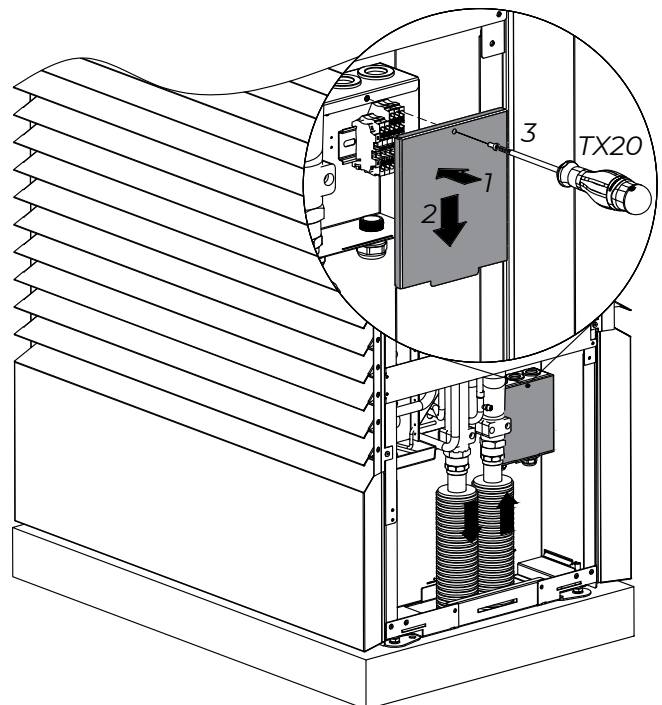

Figure 15: Opening the electrical box
Use a screwdriver (TX20) to remove the screws on the cover of the electrical box (Figure 15). Remove the cover by first bending it forward (2) and then lifting it (3).